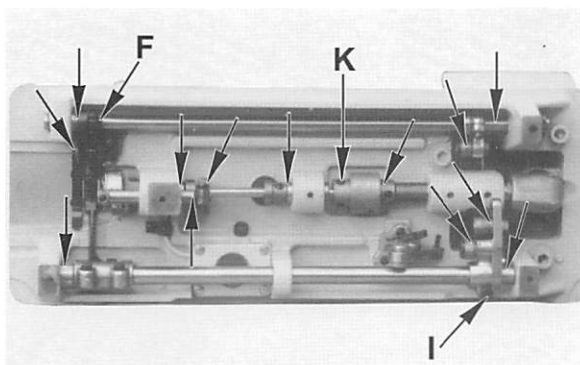

Fig. 5
2. Loosen bell crank screw (F, Fig. 5) and adjust the height of the feeder by raising or lowering it.
3. Lay down the machine head toward the other side, and loosen the screw (I, Fig. 5)